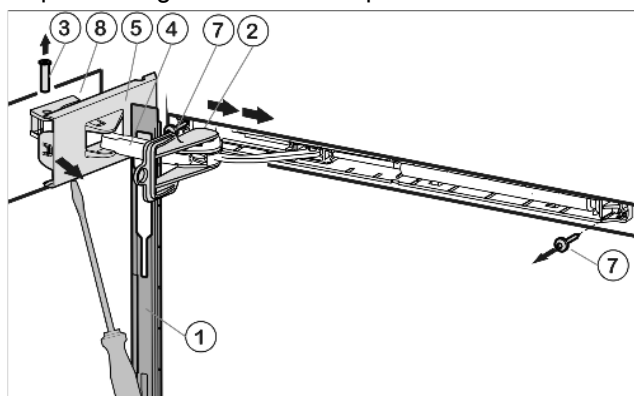

Fig. 15
- Push panel forward over the damper bracket Fig. 15 (4) in the direction of the appliance.
- Engage locking device Fig. 15 (2) into place inside oblong hole.
- Unscrew cover that is on the hinge side Fig. 15 (5) until the first notch using a screwdriver.
- Push bolt (7) out from below.
- Press damper bracket Fig. 15 (4) in the direction of the door.
- Completely loosen cover that is on the hinge side Fig. 15 (5) and remove.
- Remove panel Fig. 15 (1).
- Unscrew soft stop unit (2 x Torx 15) Fig. 15 (7).